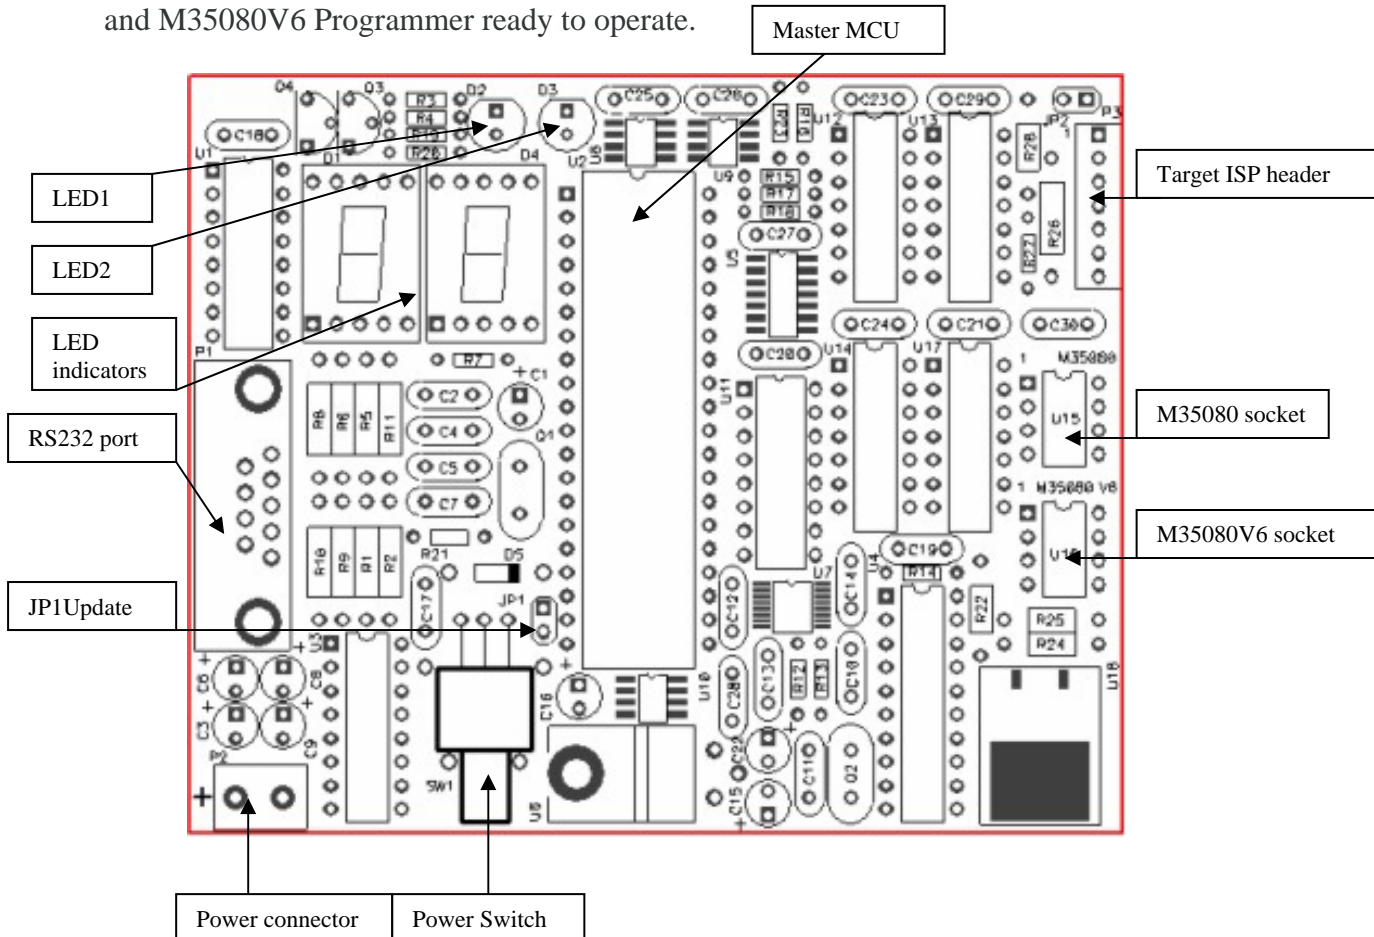

Figure 1. M35080V6 ERASER/PROGRAMMER components
The M35080V6 Programmer is designed to accept M35080 8 Kbit Serial SPI Bus EEPROM with Incremental Registers. M35080V6 Programmer support 2,5; 5,0 ; 6.0; 8.0 MHz Clock Rates devices (See Appendix1, 2). To understand M35080V6 Programmer components meaning see Figure 1. To install and use the M35080V6 Programmer, follow these steps:
- Turn ON M35080V6 programmer via Power Switch (see Figure 1)
Erase Incremental Registers operation will execute every time when user click “ERASE -M35080V6” command button. During this operation you should see real address of the incremental memory cell erased already on the LED indicators (see Figure 1). For example if you should see a display same to this“0A”:
Step 8: LED2 (see figure 1) will appear to the red color for a 3...5 seconds, then LED indicators will flashing “G” segments simultaneously (see Figure 7)